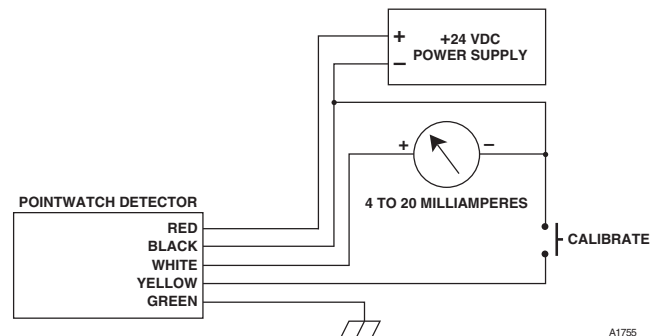
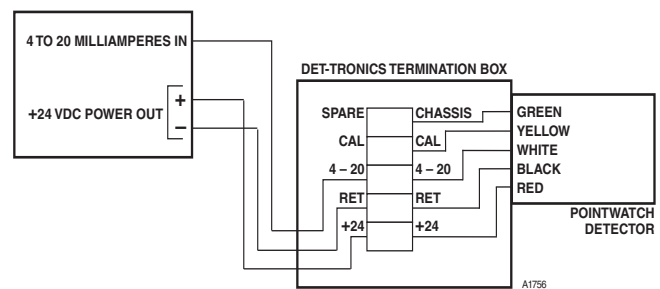
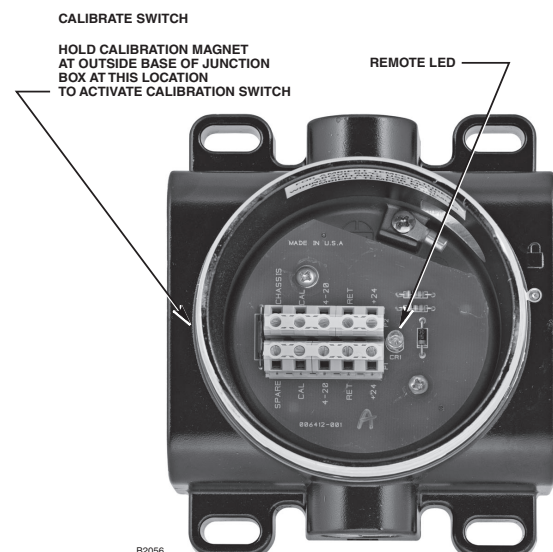

Figure 15—Typical PIR9400 Detector Wiring, Stand Alone Configuration
Figure 16—Typical PIR9400 Wiring, PIR9400 with PIRTB
Figure 17—PIRTB Terminals and Calibration Switch
3. Figures 15 through 20 show typical wiring for various system configurations using the Model PIR9400 Detector. Refer to the appropriate figure as a guide to system connection. Figure 15 shows typical wiring for stand alone operation. Figure 16 shows typical wiring for the PIR9400 with Det-Tronics supplied termination box. Figure 17 shows the termination box terminals and calibration switch. Figure 18 shows wiring for PIR9400/FlexVu UD10 operation. Refer to the UD30 Instruction Manual (95-8764) for wiring the PIR9400 to the UD30 display. Figure 19 shows typical wiring for PIR9400/Infiniti U9500 Transmitter operation. Figure 20 shows a PIR9400 wired to a DCU in an Eagle Quantum Premier system. The PIR9400 wiring color code is:
- *The calibration sequence is initiated by momentarily connecting the calibration lead to the negative lead (common) of the power supply using the Cal Magnet or an external switch. If the Det-Tronics PIRTB with magnetic Cal Switch is being used, this is accomplished by holding the Cal Magnet near the side of the PIRTB for one second. The location of the Cal Switch is shown in Figure 17. An alternate way of accomplishing this is to install a pushbutton switch between the yellow lead and the power supply common (–), as shown in Figure 15. Use of the Cal Magnet to activate the Cal Switch in the PIRTB will be referred to throughout the following procedures. If an alternate method of initiating calibration is used, substitute that method in all places in which the Cal Magnet/Cal Switch activation are referenced.*
3. Initiate calibration by either momentarily activating the Calibrate pushbutton shown in Figure 15 or by holding the Cal Magnet near the Cal Switch in the PIRTB (if used) for one second.